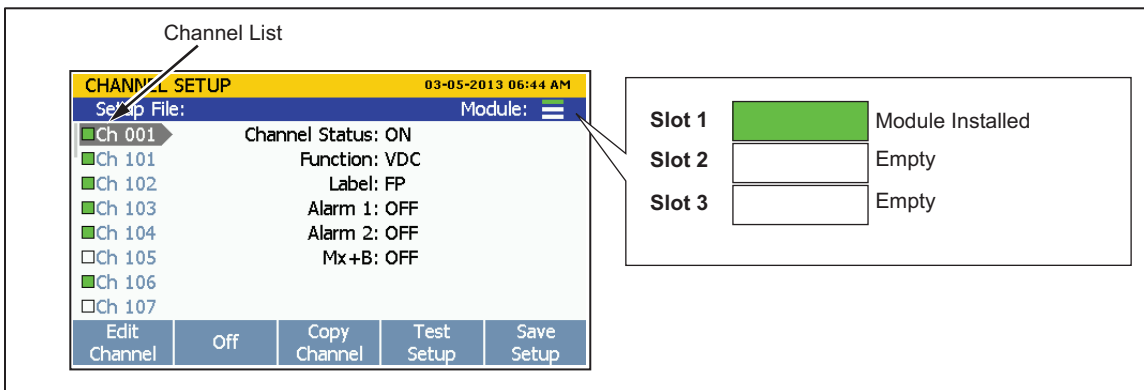

Figure 2-5. Module Indicator Example
4. Verify that the module indicator appears green on the main screen (see Figure 2-5).